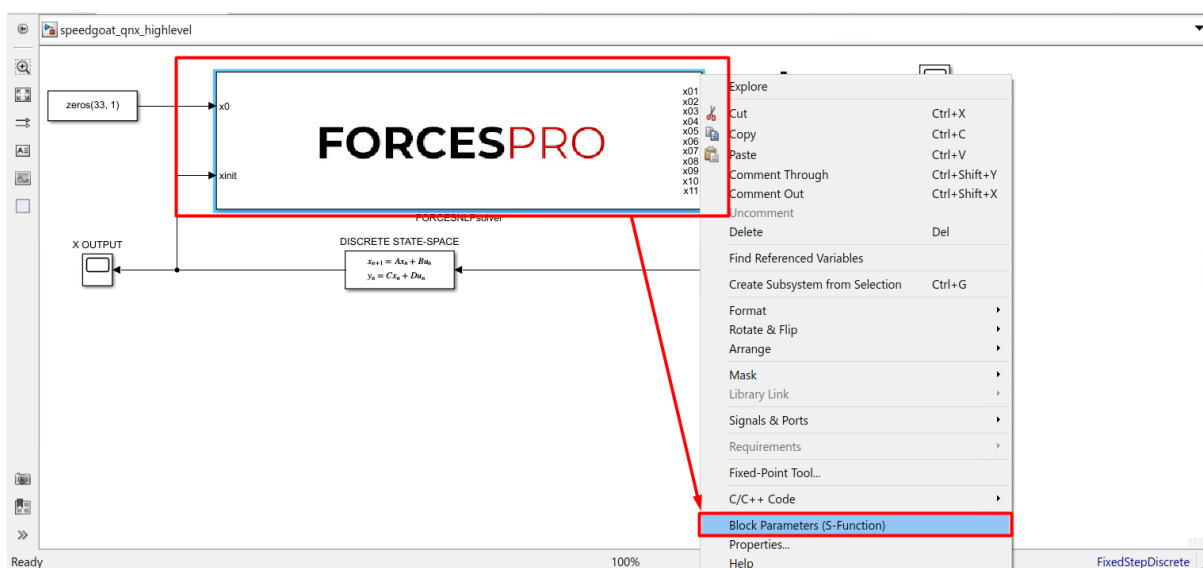

Figure 13.99: Open the FORCESPRO block's parameters.
13. (Figure 13.99) Access the FORCESPRO block’s parameters.